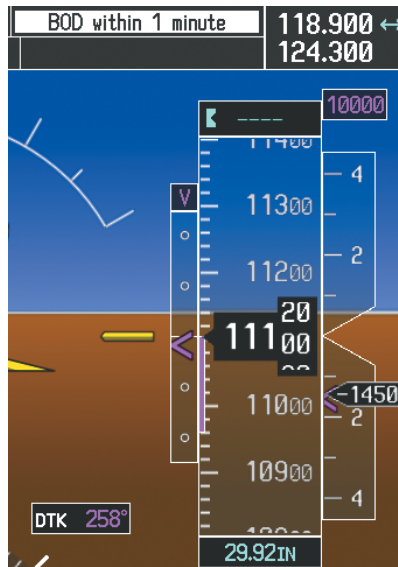

Figure 5-142 Approaching Bottom of Descent (BOD) at OPSHN Offset Waypoint
- 17) When the aircraft is one minute from the bottom of descent (BOD) it is annunciated as shown in Figure 5-142. Upon reaching the offset waypoint for OPSHN, the aircraft is at 10,000 feet.